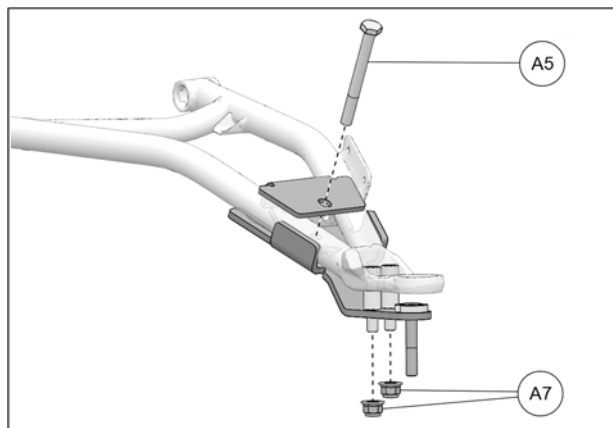

Fig. 19
- Insert the M10x100mm bolt (A5), from the top, through the hole in bracket cover. Secure bracket to suspension arm using provided nuts (A7). Tighten assembly to 50 N•m [37 lb•ft] of torque. See Fig. 19